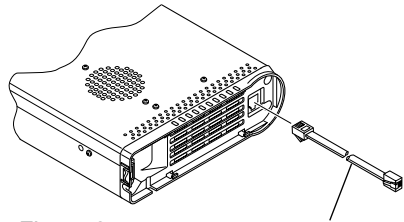

Figure 2 Controller Extension Cable
4. Referring to Figure 2, insert the plug of the Controller Extension Cable into the corresponding jack on the **FT-857D**.